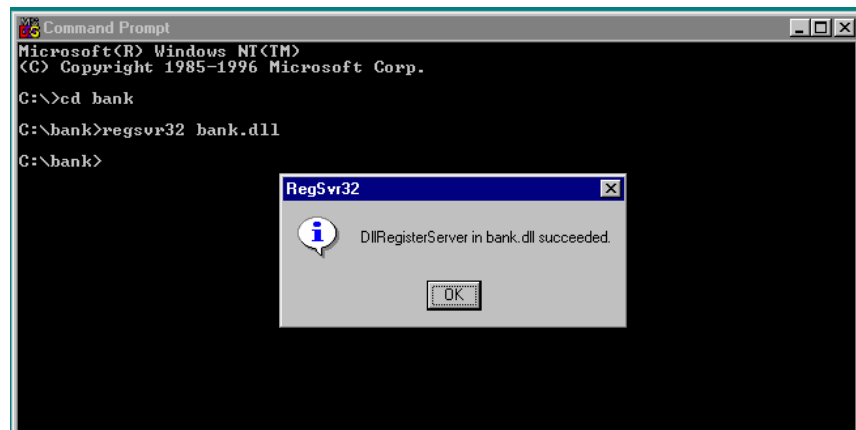

Figure 2
2. Open a Command Prompt window, and register the DLLs **Bank.dll** and **vcacct.dll** from the command line (see Figure 2).